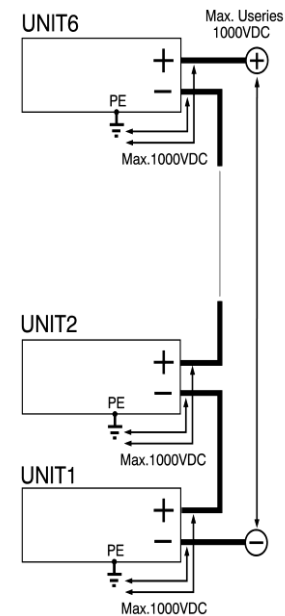

Figure 7.11: Series operation
- Only the SM500-CP-90 can be connected in series without special precautions, see Figure 7.11. The SM70-CP-450, SM210-CP-150, SM1000-CP-45 and SM1500-CP-30 cannot be connected in series.